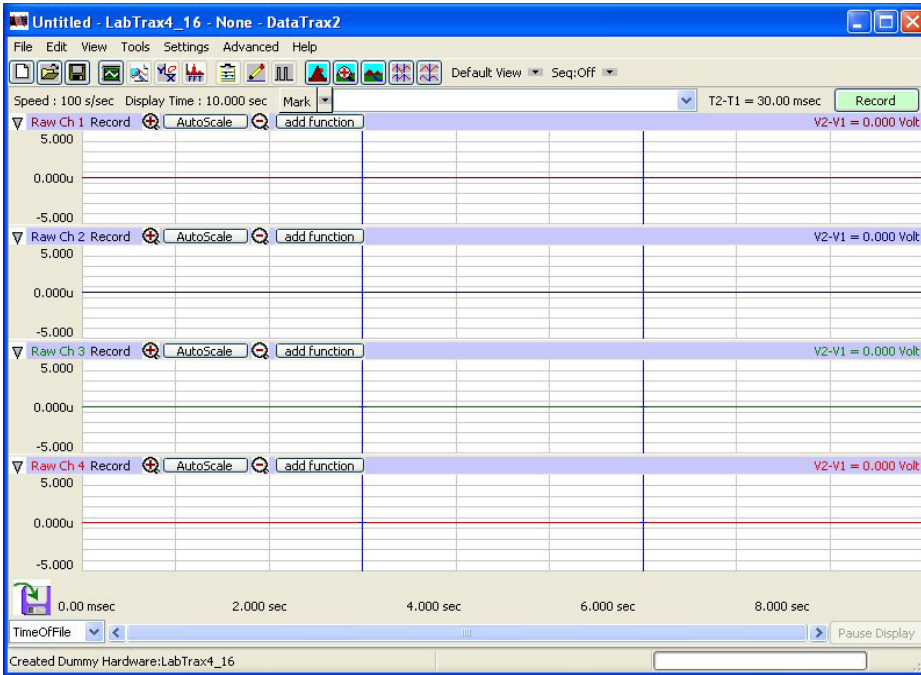

Fig. 34—Main LabScribe window
4. An information box appears indicating the hardware that was found. For example, **Fig. 32** shows a LabTrax 4_16, and **Fig. 33** shows a WPI-118. The default LabScribe main window appears (**Fig. 34**).